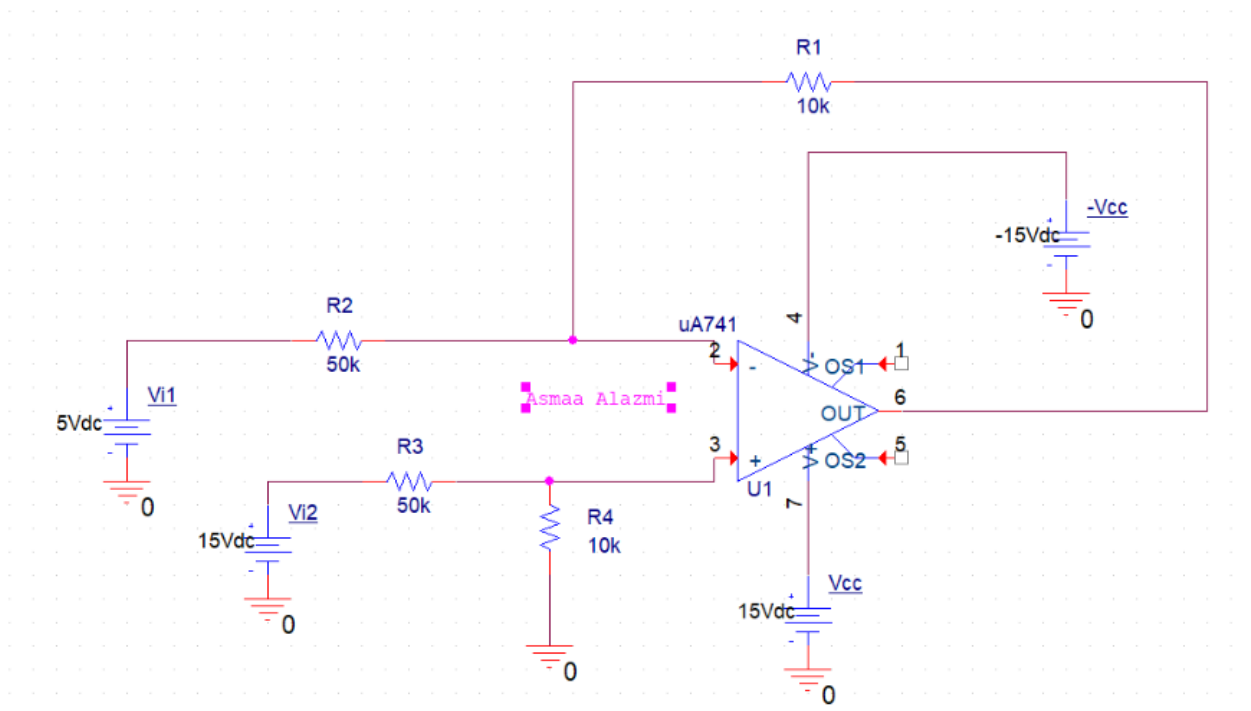

Figure 5 - Op-Amp Difference Circuit Experiment
6.....	Figure 5 - Op-Amp Difference Circuit Experiment
- 1- Circuit of Fig.5 was set on the breadboard.